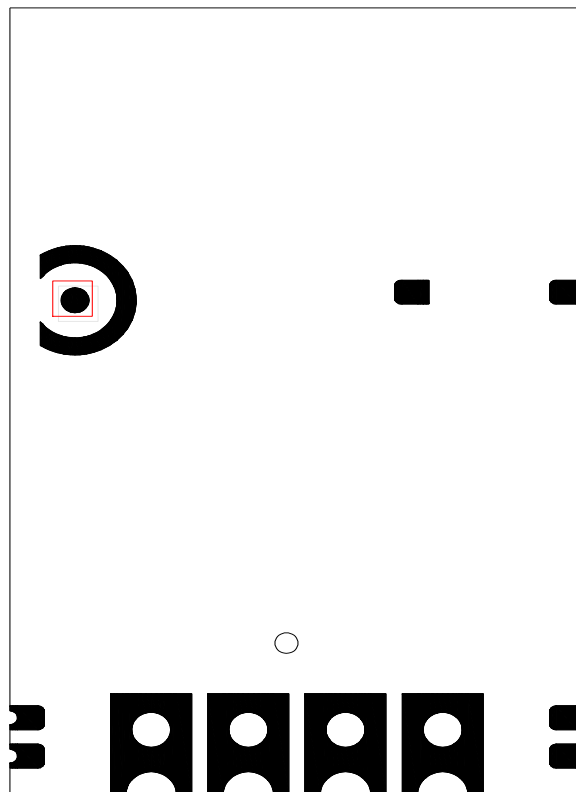

Figure 13: Prohibited wiring area at the bottom
- 4) Wiring is prohibited in the motherboard area below the RF test point of the SMT module, as shown in Figure 13.